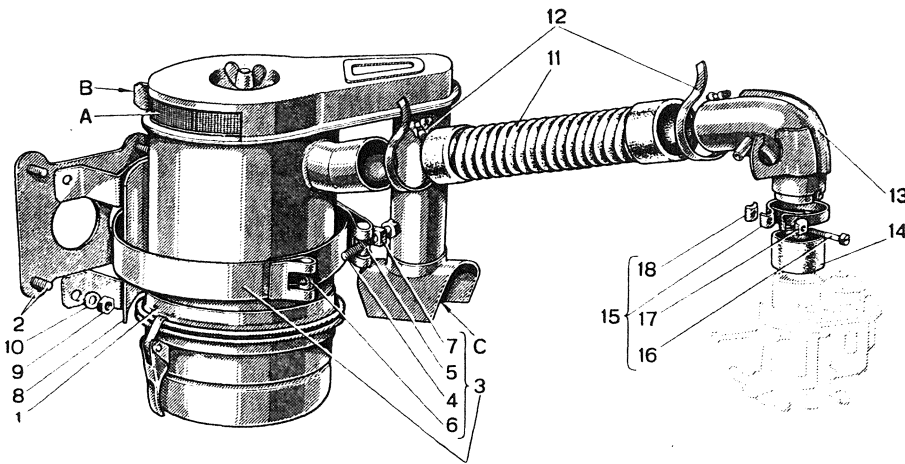

Fig. 146.
According to seasonal requirements the by-pass may be set in two positions. During summer air enters through the screened slots (A, fig. 146). In winter the entrance of cold air may be impeded by rotating the by-pass 105° thus feeding warm air to the engine. The stream of incoming air is ducted around exhaust manifold through lower scoop (C, fig. 146) where it is heated.
To set the by-pass in the required position slacken the cover central wingnut and turn by-pass lug (B, fig. 146) then retightening the wingnut.
To this purpose remove the cleaner from car by slackening the clamp screw (3, fig. 146) secur-
ing the unit to the support bracket (8) and collar (15, fig. 146) of cleaner connection to carburetor.